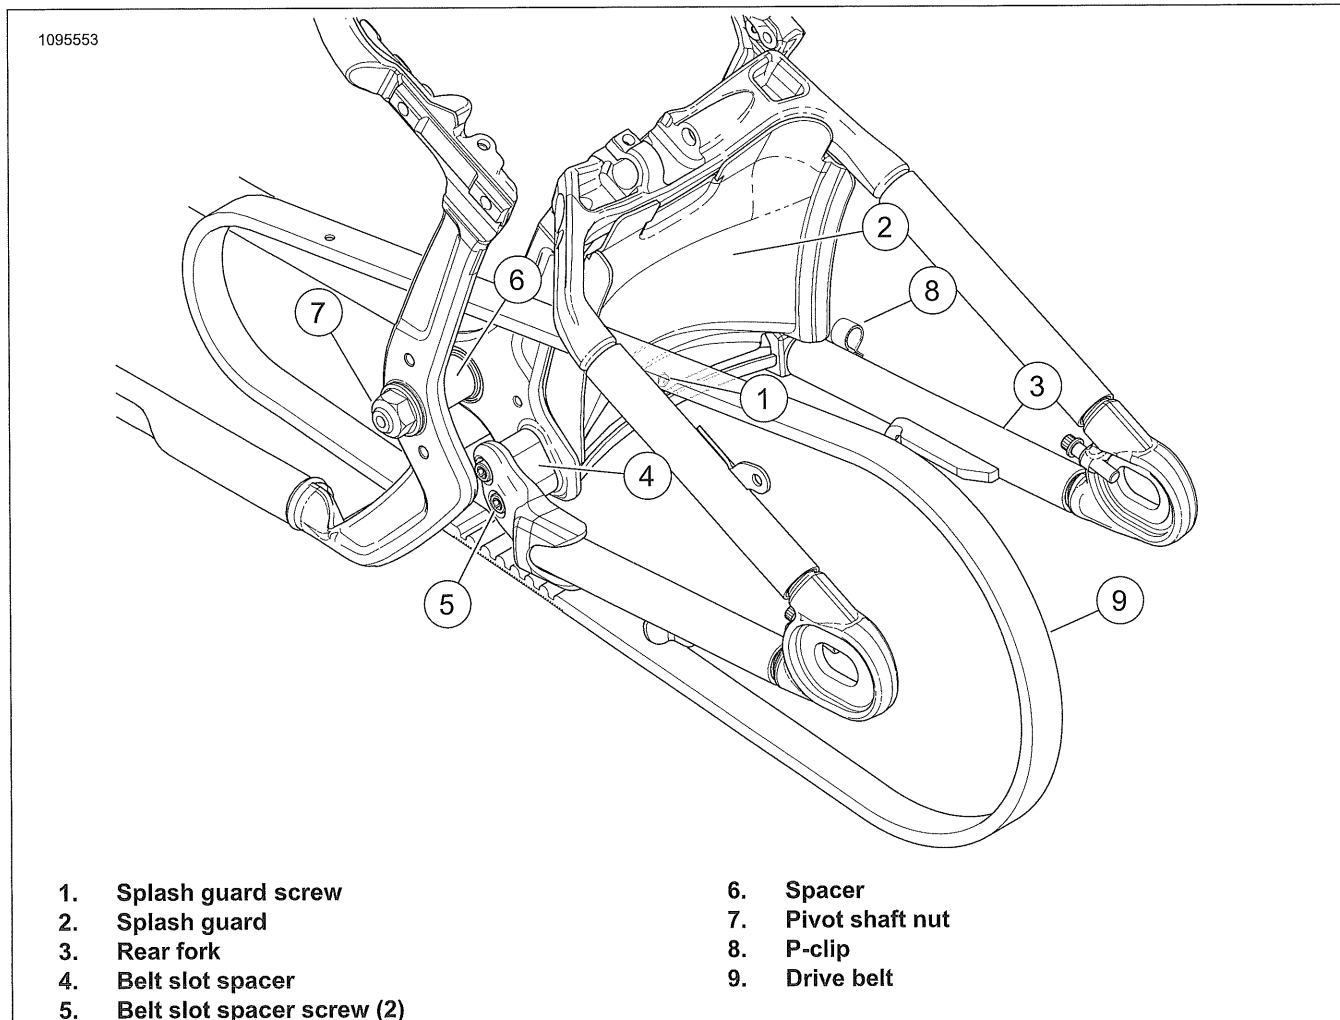

Figure 3-82. Rear Fork
7. See Figure 3-82. Remove splash guard.
- a. Remove screw (1).
- b. Pull the bottom of splash guard (2) out and down and remove.
8. Remove brake line P-clip (8).
9. Remove screws (5) and belt slot spacer (4).
- a. Align rear fork (3) with frame.
- b. See Figure 3-82. Lift top of drive belt (9). Install pivot shaft through right side of frame, rear fork (3), transmission fork mount, drive belt, spacer (6) and left side of frame.
- c. Install pivot shaft nut (7). Tighten.
1. See Figure 3-82. Install brake line P-clip (8).